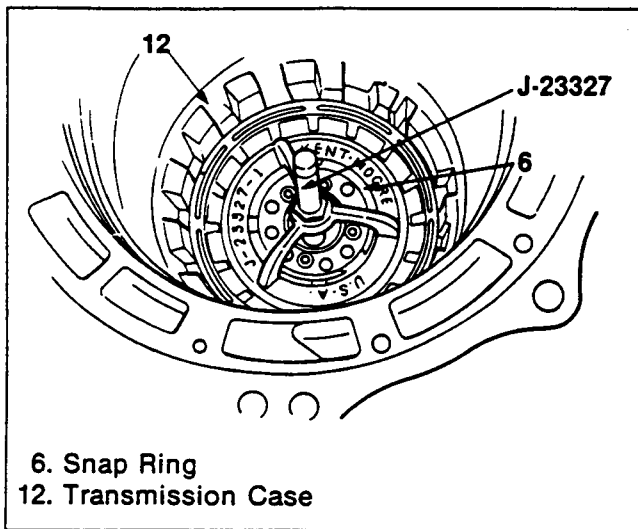

Figure 173. Return Spring Installation
Return Spring (Figure 173)
3. Push down the retainer with a spring compressor and install the snap ring (figure 173).